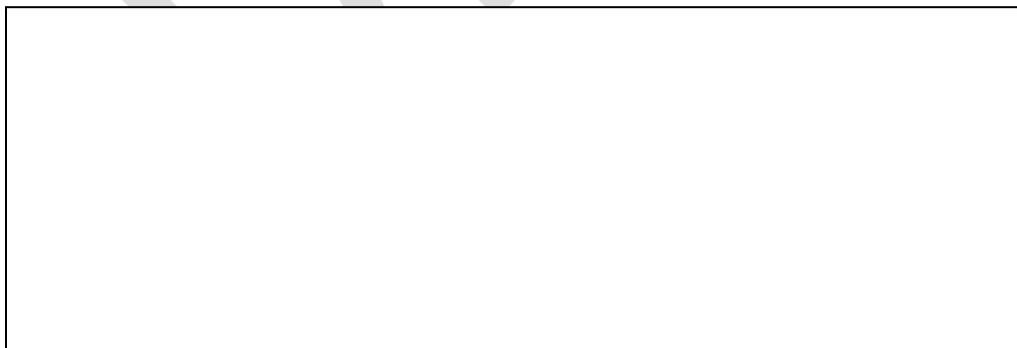

Figure 9. Applying Weights for Dyno Calibration
4. Refer to Figure 9. Calibrate the dynamometer load cell by applying certified weights to the dynamometer calibration check arm so that the dynamometer load cell is in tension. Calibration reference values should be within ± 0.2 kilogram of the target mass in Table 1, below.